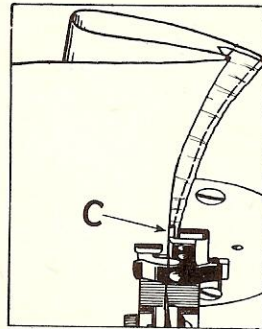

Fig. 19. Circular Invisible Hem with Folded Edge Being Blind Stitched
- G. Place this gathered edge under the attachment with the fold against the guide C, as shown in Fig. 19. (Adjust guide C according to the material to be blind stitched, as instructed on Page 3.) Then lower the presser bar